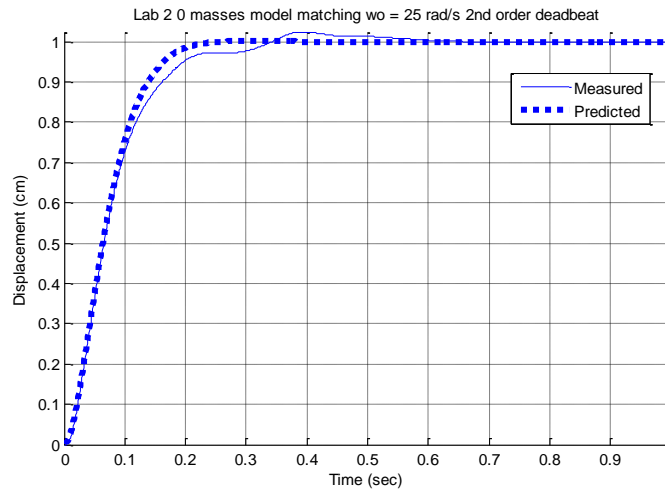

Figure 3: Comparison of closed loop simulation and actual results
9. Use the **compare1.m** file (or a modification of it) to plot the results of both the simulation and the real system on one nice, neatly labeled graph. You may need to modify this file to get the plot you want. You need to include this graph in your memo. Figure 3 presents an example of the results of the **compare1.m** program. Try your best to get similar results.